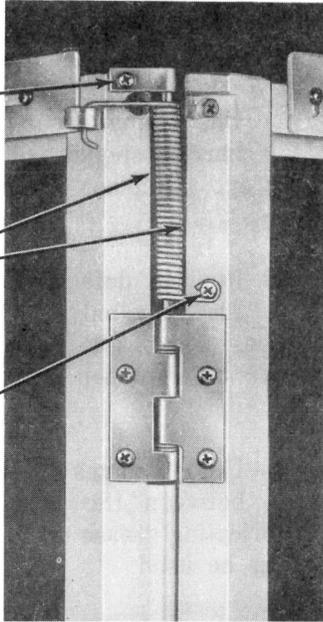

Fig. 3—Installation of Top Hinge Assembly
- (1) Check hinge wear. Clearance between hinge barrels should not exceed 1/16-inch; gauge by eye. Replace worn hinges.
- (2) Replace defective spring of the top hinge assembly only if the assembly is the latest type. (Fig. 3.) Replace all earlier type assemblies with the new top hinge assembly.
- (3) If door hinges squeak, lubricate at each joint between the barrels with KS-14774, L2G lubricating grease or equivalent; a KS-14796 oiler may be used.